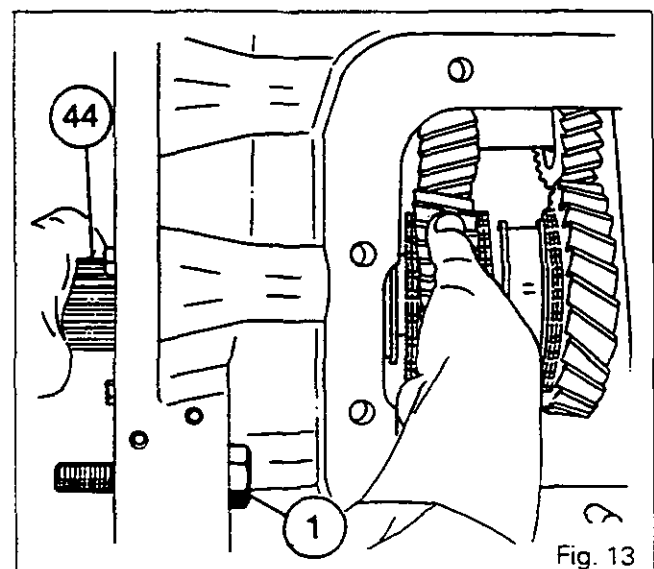

Fig. 13
39. Remove the circlip (45).
42. Remove the bolts (41) and the locking ring (46).
43. Remove the cup (48), cones (40) and (39), and the shaft (44).
44. Fit the following in the housing: the Tortoise gear (36), the synchromesh and its rings (33) and (74), the thrust washer (32), the gear (29) with its needle-roller bearings (30) and (28) and its synchromesh cones (75) and (76), thrust washer (27) and synchromesh ring (25).
- Note:** If bush (35) shows signs of wear, replace the complete gear assembly. (The bush is reamed after fitting). If the combination bearings (30) and (28) are worn, replace the complete gear assembly. (Bearings are fitted in the factory).
45. Insert the output shaft (44) while holding the gear assembly in position (see Fig. 13).
46. Pull the shaft slightly back in order to expose the groove for the snap ring (34).
90. Fit the bolt (1) (Fig. 13), if fitted, see section 5 C01 or 5 C02 in according to version.